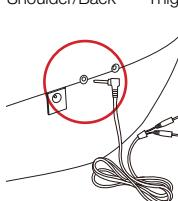

Fig 6
1. Plug the 2 cables into the cable jack at the side of the unit. (See Figure 6).